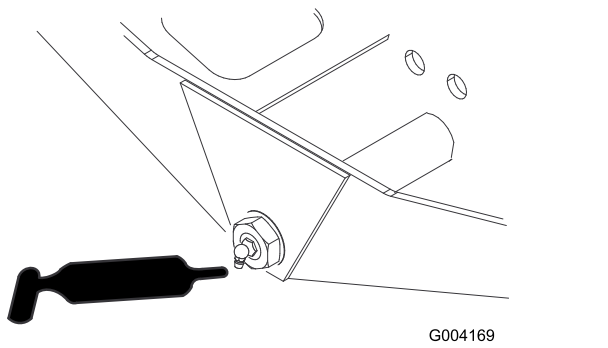

Figure 46
- Axle-steering pivot (1) (Figure 46)